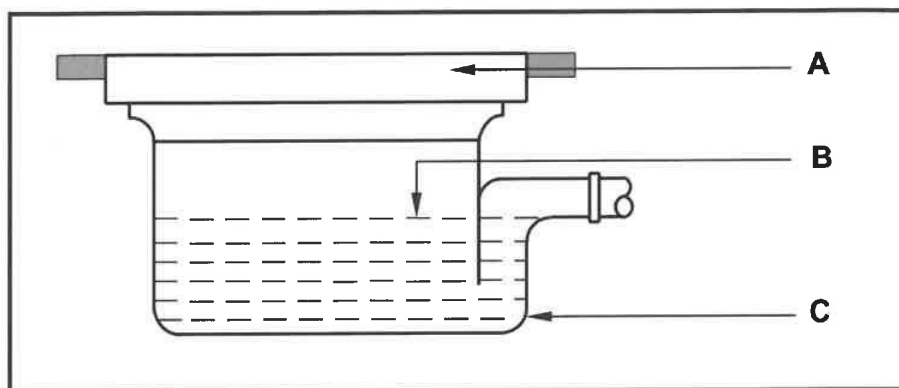

FIGURE 6.4
- 6.4 FIGURE 6.4 below shows the sectional view of a drainage fixture. (2)